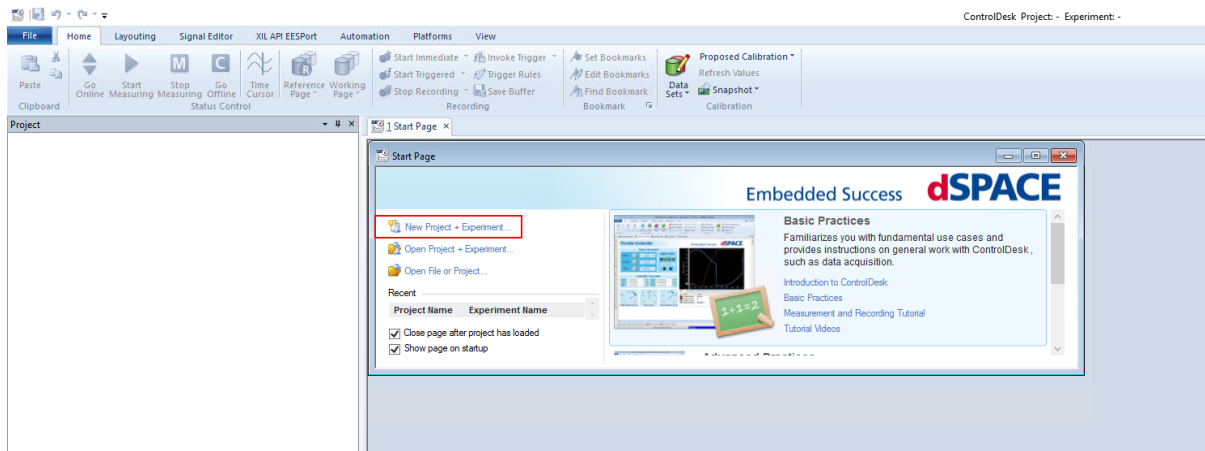

Figure 6.8: Start a new project
- 6) Open dSpace Control Desk and select create new project (see Figure 6.8).